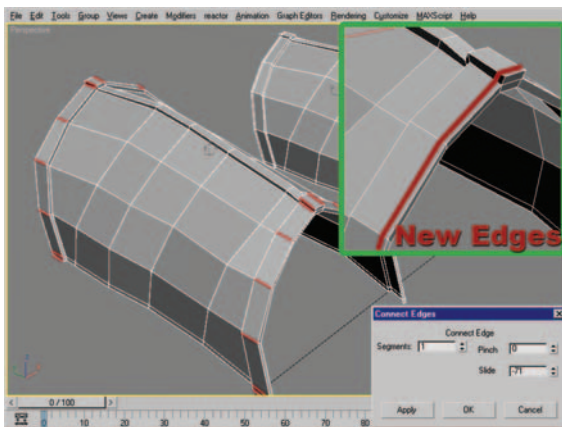

Figure 10.12 Edge-ring selections and resulting mesh after using Connect.
14. Select the edge rings seen in Figure 10.12 (left) and use the Connect settings with a Slide value of -71 to end up with the result seen in Figure 10.12 (right).